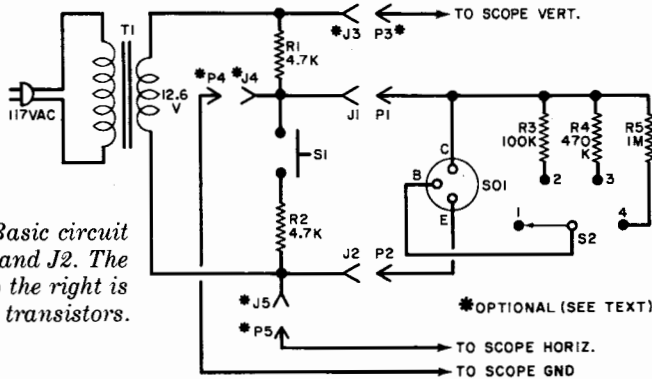

Fig. 1. Basic circuit ends at J1 and J2. The circuit to the right is used to test transistors.
**Circuit Operation.** The tester provides a simple means of depicting the voltage/current behavior characteristic of the component under test, graphically displaying the characteristic on an oscilloscope screen. The basic circuit shown in Fig. 1 consists of transformer  $T1$ , resistors  $R1$  and  $R2$ , switch  $S1$ , and component attachment jacks  $J1$  and  $J2$ . Note the three connections that must be made from the tester to the oscilloscope's horizontal and vertical inputs and ground. The remainder of the circuit is used for actual semiconductor testing and is connected to the basic circuit by plugging  $P1$  into  $J1$  and  $P2$  into  $J2$ .
For most transistors,  $\beta$  can be determined by rotating S2 until the trace is close to 45°. For the component values shown in Fig. 1, and a trace slope of 45°, the  $\beta$  is approximately 21 in position 2 of S2, approximately 100 in position 3, and approximately 213 in position 4.
in Fig. 1 must be plugged into J1 and J2 or the separate test leads must be plugged into the jacks. Assuming the former, if a transistor is plugged into SO1 and S2 is set to position 1, the trace observed should be a continuous horizontal line. (With no base current, the transistor should have an infinite emitter-to-collector resistance.) The trace will be off the horizontal only if there is leakage current within the transistor or the transistor's breakdown voltage is exceeded. These traces are depicted in Fig. 2C.